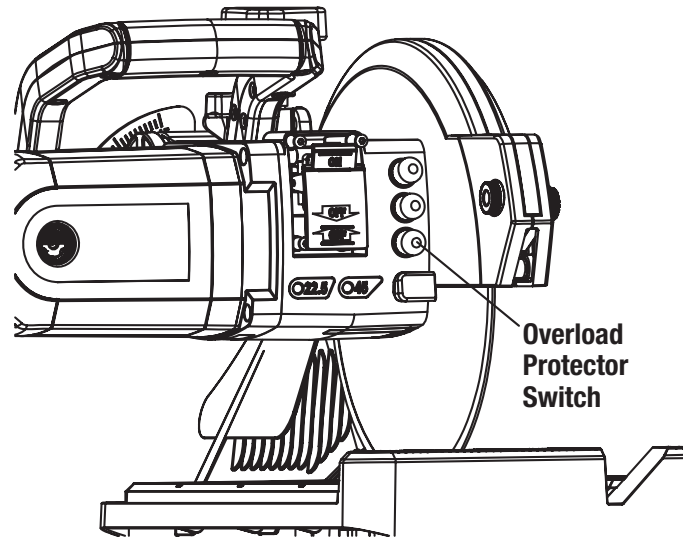

Fig. 3
1. After cooling to a safe operating temperature, the overload protector can be reset by pressing the overload-protector switch on the side of the motor. (See Fig. 3)